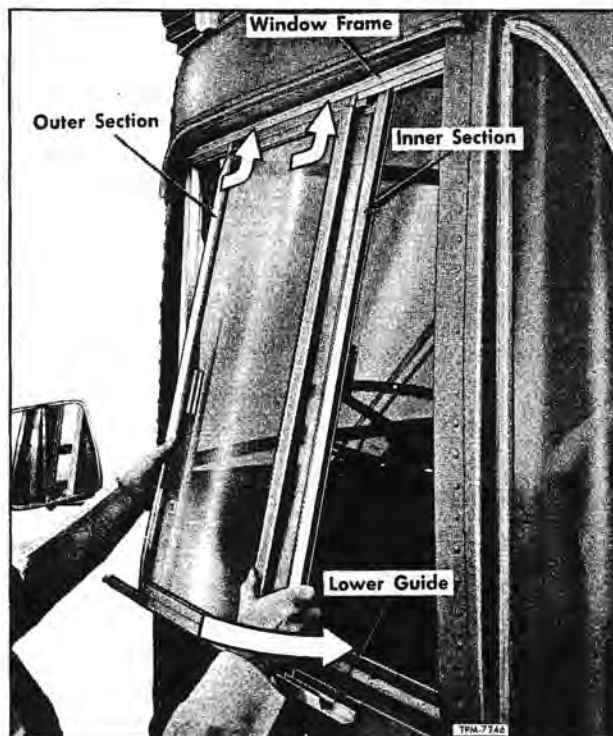

Figure 12—Replacing Driver's Window
REMOVAL (Refer to Fig. 12)
2. While assistant within coach forces bottom of sash sections outward, grasp window as shown in figure 12 and lower from window opening.
1. Slide window sections to center as shown in figure 12, then lift sections to openings and engage section upper channels over mating guide rails of window outer frame in body opening.